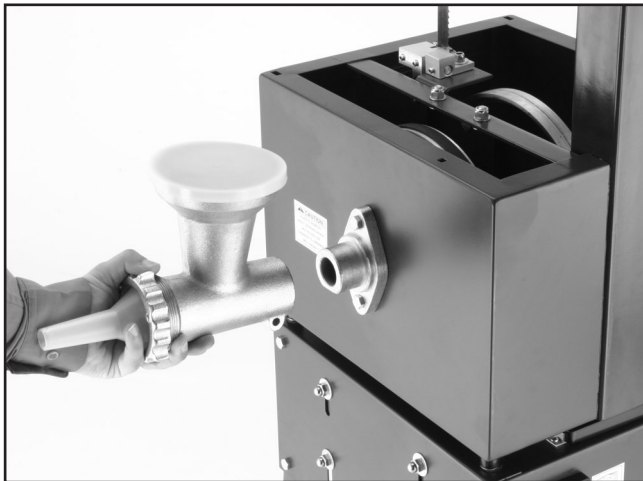

Figure 19. Meat grinder installation.
1. Make sure the fork inside the meat grinder lines up with the tang inside of the housing that is mounted on the saw body, and slide the meat grinder all the way onto the housing (**Figure 19**).